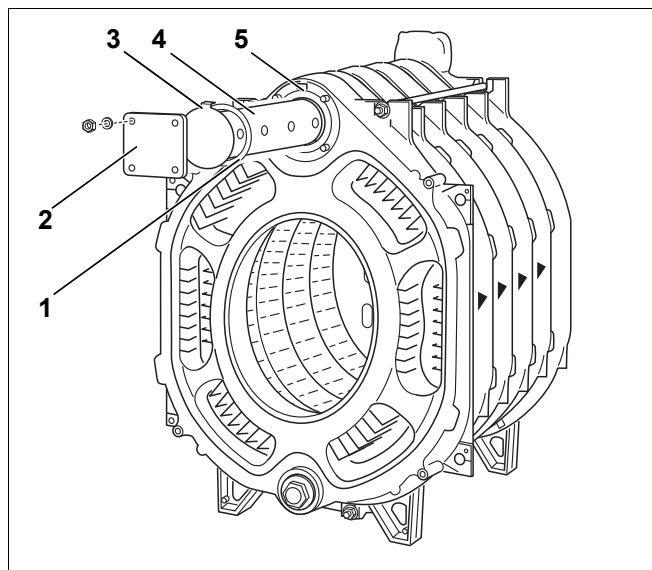

Fig. 19 Return header installation
- Pull flat seal (→ Fig. 19, [1]) over the return header (→ Fig. 19, [4]).
- Close the pipe with a blanking flange (→ Fig. 19, [2]).
The profile (→ Fig. 19, [3]) on the end plate of the feed pipe must engage into the recess of the upper boiler hub (→ Fig. 19, [5]). This secures the feed pipe so, that the feed pipe exit port is positioned at a right angle to the boiler. This ensures optimum water distribution in the area of the upper boiler hub.